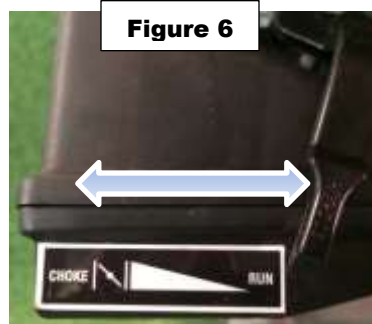

Figure 6
- Turn key to the “start” position. See figure 6